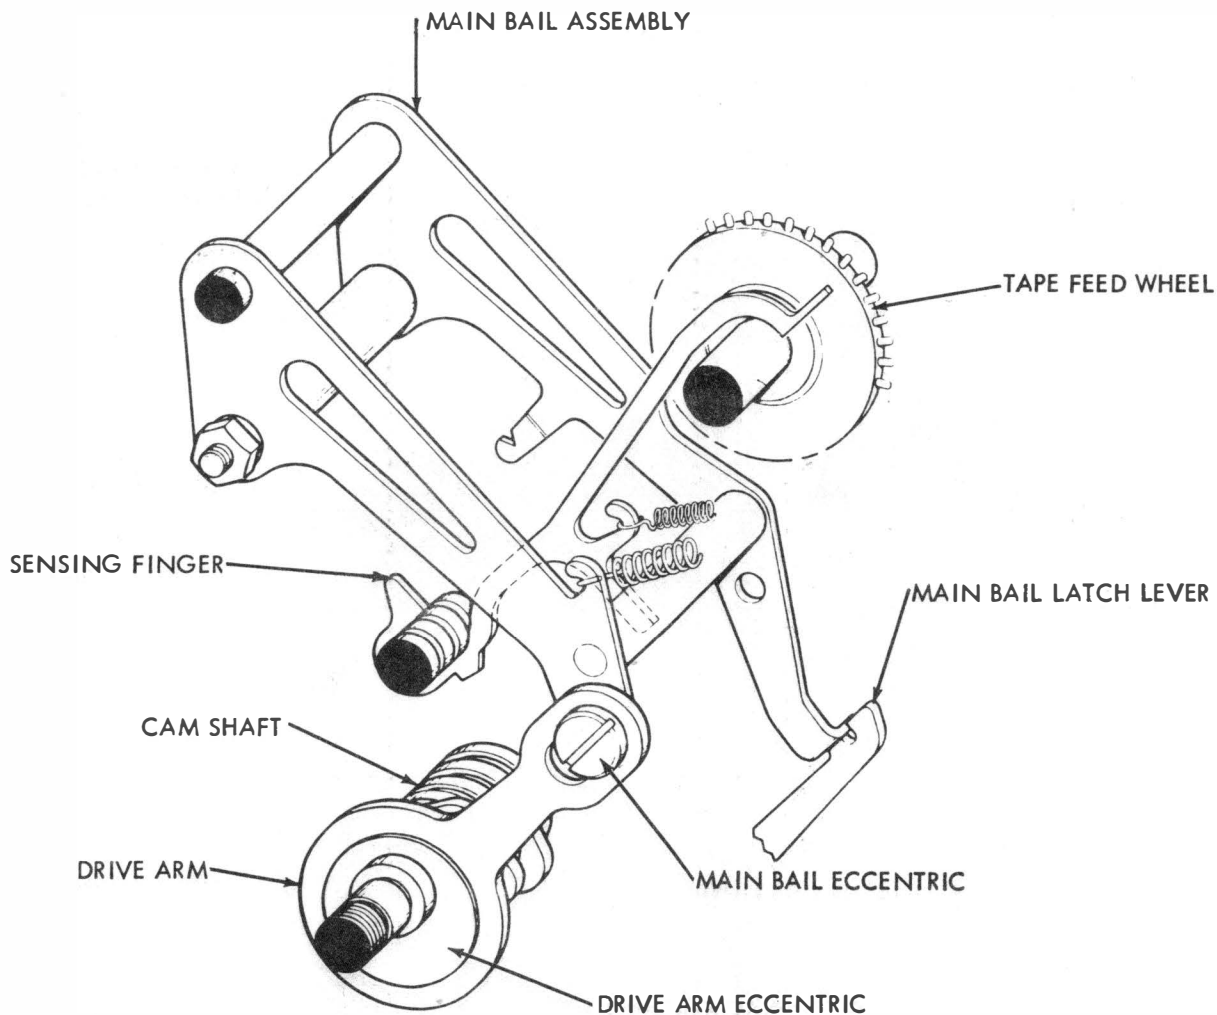

Figure 18 - Main Bail and Drive Arm Mechanism
2.17 As the cam for the first pulse starts its action, the drive arm eccentric (Figure 18) starts to cam the drive arm downward. The drive arm pulls on the eccentric stud of the main bail causing the main bail to pivot downward to complete the operations initiated when the main bail was originally released (Paragraphs 2.06 and 2.07).